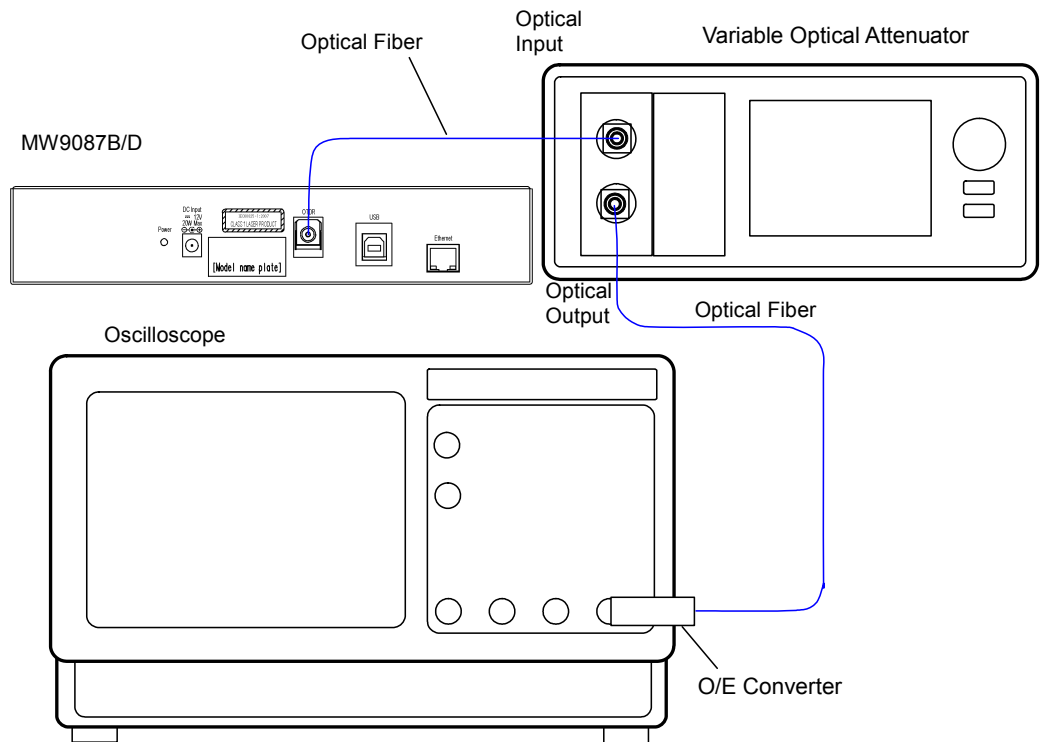

Figure 5.1.3-1 Pulse Width Measurement Setup
1. Connect the mainframe to the measurement equipment as shown in Figure 5.1.3-1.